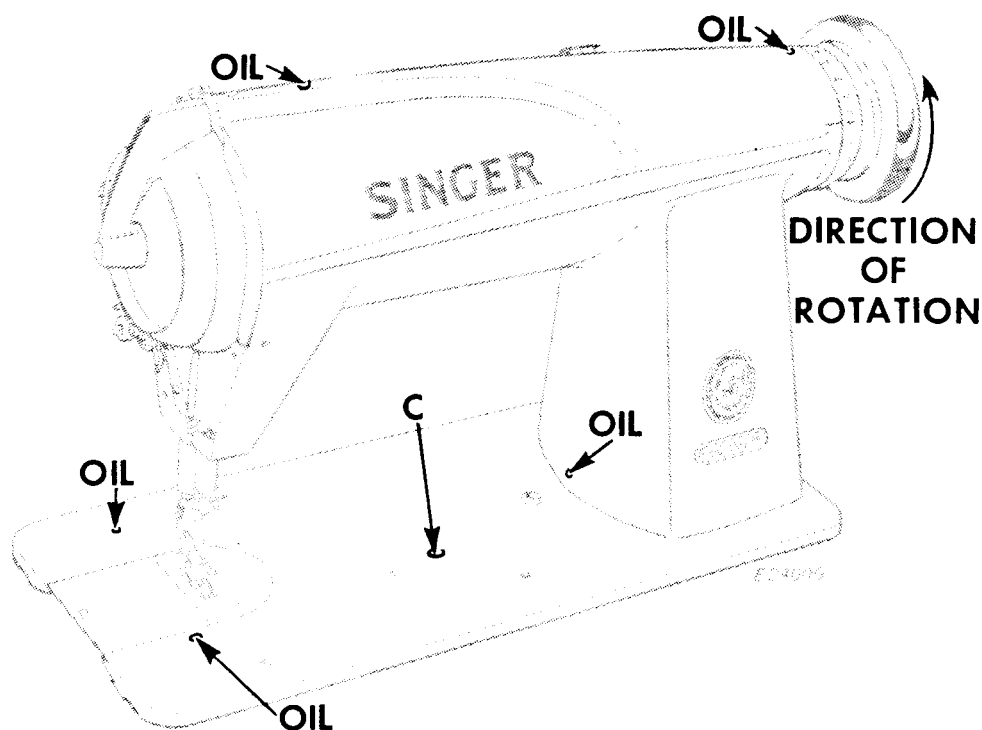
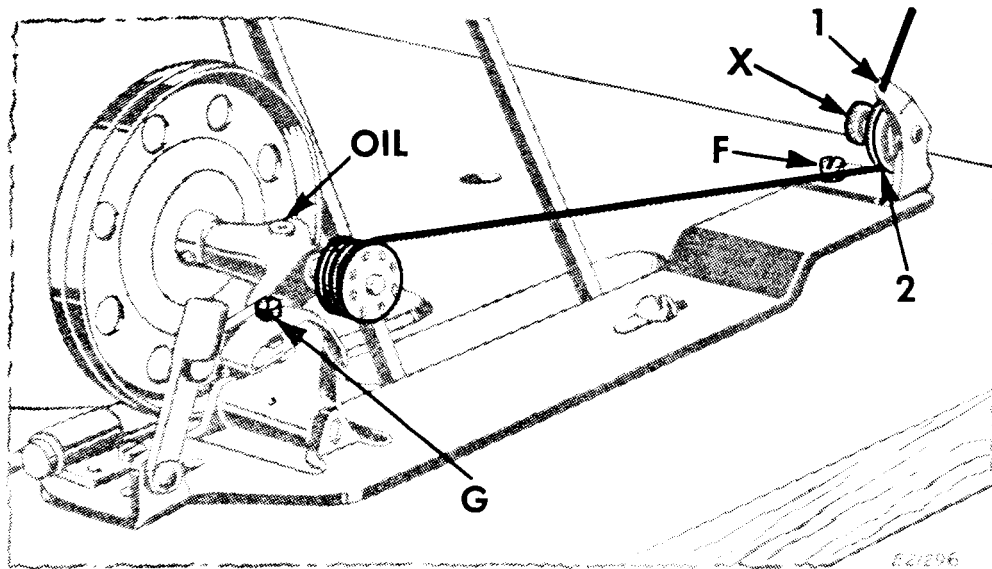

Fig. 3. Showing the Six Oiling Points on the Machine
Fig. 6. Winding the Bobbin
**BEFORE STARTING THE MACHINE**, fill the oil reservoir (through the oil gauge hole) to the top mark on the oil gauge **C**, **Fig. 3**.
AT THE BEGINNING OF EACH WORKING DAY, place A FEW DROPS of oil in each of the five oil holes indicated by the arrows in Fig. 3 as well as the oil hole in the bobbin winder spindle indicated in Fig. 6.
Pass the thread down through the thread guide 1 in the tension bracket, around the back of, and between, the tension discs 2. Then wind the end of the thread around the bobbin a few times in the direction shown in Fig. 6, push the bobbin winder pulley over against the machine belt and start the machine.
When winding a bobbin with fine thread, a light tension should be used. Adjust the knurled nut X, Fig. 6, to regulate the tension.